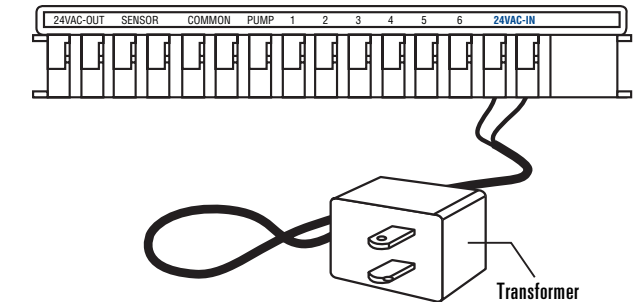

Figure 25: Connecting the Transformer
- With the cover off, find the two terminal holes labeled "24VAC IN" [See Figure 25]